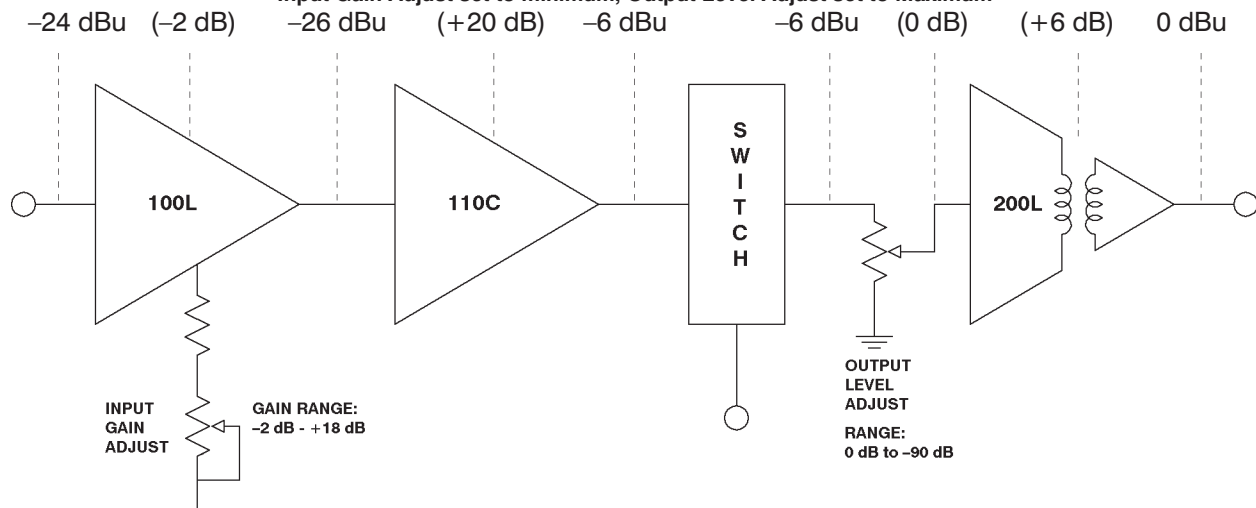

Figure 2 - Gain Structure
1. Locate a proper slot in the mainframe. Mainframe slots are set up on the rear panel of the mother board according to the card type to be used. Slots are dedicated by installing the proper trimpots. Trimpots **MUST** be installed as indicated in Figure 2 and 3 for inputs and outputs to function. Microphone level inputs require 200Ω trimpots. All others require 10 kΩ trimpots. Slots labels are applied at the factory above each slot position. Single input cards such as the 5101CS, 5101CS-8, 5151CS, and the are labeled 'SPECIAL', as are any specially made cards. With the exception of the SPECIALs, cards may be inserted in any slot with a matching label.
The gain structure diagrams in Figures 2 - 3 show the signal levels and gains or losses at key points in the cards. Since all outputs on a card behave identically, only one output is shown in the diagrams. In the examples the Input Gain Adjust pots were set for minimum gain (fully counterclockwise), and the Output Level Adjust pots at maximum output (fully counterclockwise). The levels and gains shown are those required to produce an output level of 0 dBu.